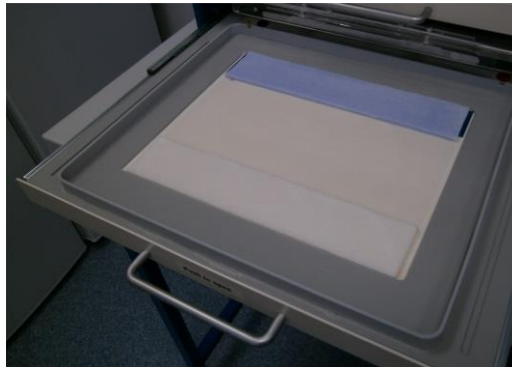

Fig. 7
11. Place the electrode wicks onto the gel edges overlapping them by at least 2 mm (Fig 7). Hold wicks horizontally! Never sloped, because this would cause unequal buffer concentration along the wick. Smooth out air bubbles with bent tip forceps.